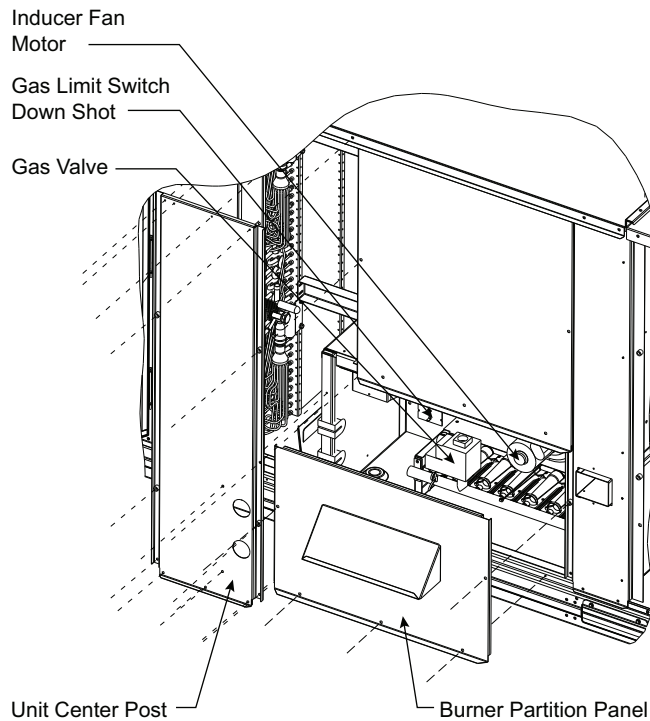

Fig. 53 — Burner Partition Pane and Unit Center Post
5. Remove the screws at the base of the burner partition panel (see Fig. 53) and slide out the panel.
3. Remove the unit center post (see Fig. 53).